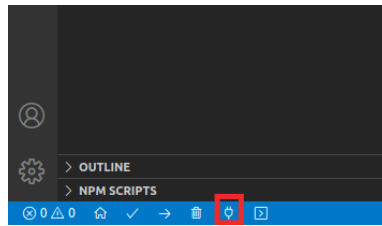

Figure 69. Open serial terminal
4. Launch the debugger in PlatformIO. When the program starts to run, open the serial monitor, by clicking on the *plug* button available on the bottom of VS Code (Figure 69).